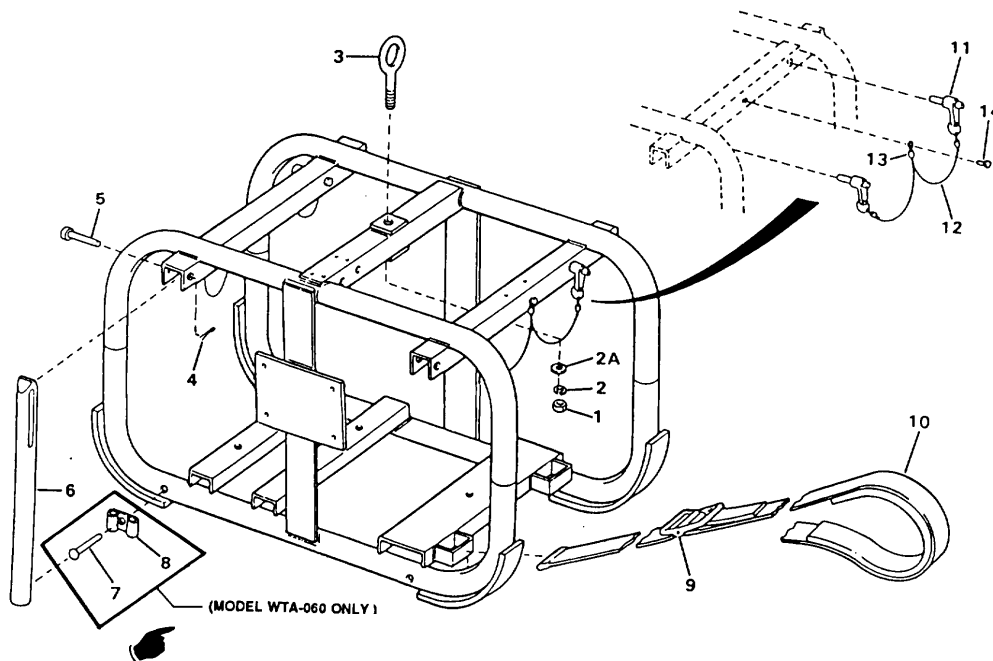

Figure 4-19. Raw Water Pump Frame Components
- a. Remove nut (1, Figure 4-19), lockwasher (2), washer (2A), and eyebolt (3).